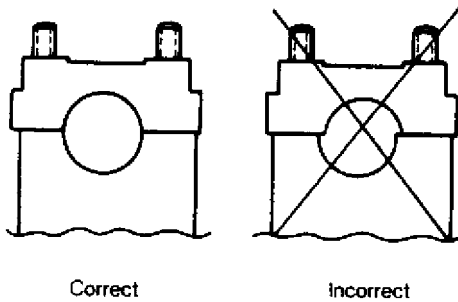

Fig. 4: Alignment of Camshaft Bearing Cap
2) Ensure caps are aligned correctly. See Fig. 4. Lightly tighten No. 2 and No. 4 caps in diagonal pattern. Tighten nuts on all 4 caps in diagonal pattern. Install remaining components. Set valve timing.